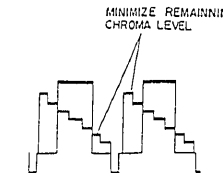

Fig. 4-106
(2) Comb Filter Adjustment (Figs. 4-106, 4-151)